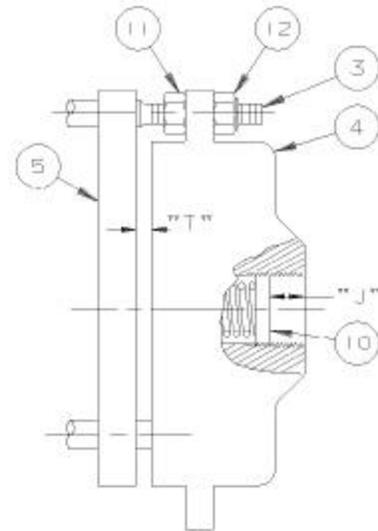

FIGURE 2.
5. Brake unit must be disassembled to mount. Remove cover (1) by removing four screws (13). **WARNING! Check dimension "J" for a .00 inch dimension, see FIGURE 2, page 4. If required, adjust spring plug (10) by turning with a 3/8 inch square socket extension for model DB-1 and a 1/2 inch square socket extension for models DB-3 and DB-5, to obtain a .00 inch dimension. DB-6 and DB-7 requires the use of a 1-1/8" hex socket wrench for adjustment. This will reduce spring (8) force to prevent the magnet pot (4) from accidentally moving off the mounting studs (3) when removing the locknuts (12).** Remove three locknuts (12) from mounting studs (3). Remove magnet pot (4), three nuts (11), armature plate (5), brake disc (6), brake plate (7) and brake disc (22).
1. AIR GAP adjustment, dimension "T" FIGURE 2, must be maintained to allow the brake to release and prevent the loss of braking torque. Dimension "T" is measured between the surfaces of the magnet pot (4) and the armature plate (5) at three equal distance points (120 degrees apart) about the magnet pot (4). This dimension should be held at 0.032 inches and in no case allowed to exceed 0.12 inches.
**MAGNET POT (4) WILL BE PROPELLED OFF THE MOUNTING STUDS (3) BY THE BRAKE SPRING (8) IF THE LOCKNUTS (12) ARE REMOVED.**
2. BRAKE TORQUE adjustment, dimension "J" FIGURE 2, controls braking effort by changing the spring (8) pressure. Increasing dimension "J" increases brake torque and decreasing "J" decreases brake torque. Brake nameplate located on the brake unit cover shows the "Minimum", "Maximum" and "Set" dimensions for brake torque. The "Minimum" dimension is the smallest dimension that the brake can be set at to obtain the least braking torque. The "Maximum" dimension is the largest dimension that the brake can be set at to obtain the highest brake torque. Exceeding this